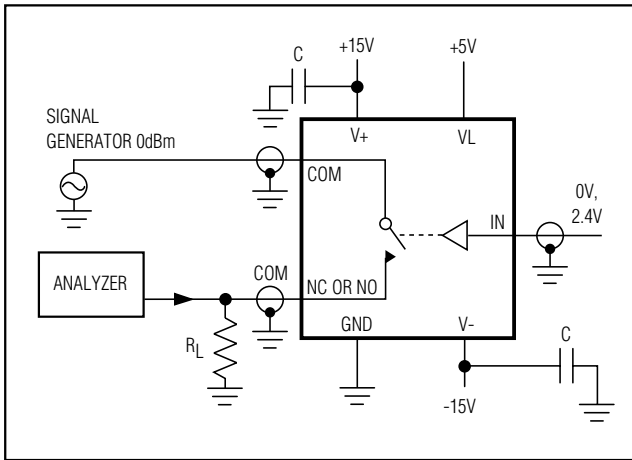

Figure 5. Off-Isolation Test Circuit
**Note 6:** See Figure 5. Off Isolation =  $20 \log_{10} [ V_{COM} / (V_{NC} \text{ or } V_{NO}) ]$ , VCOM = output, VNC or VNO = input to off switch.